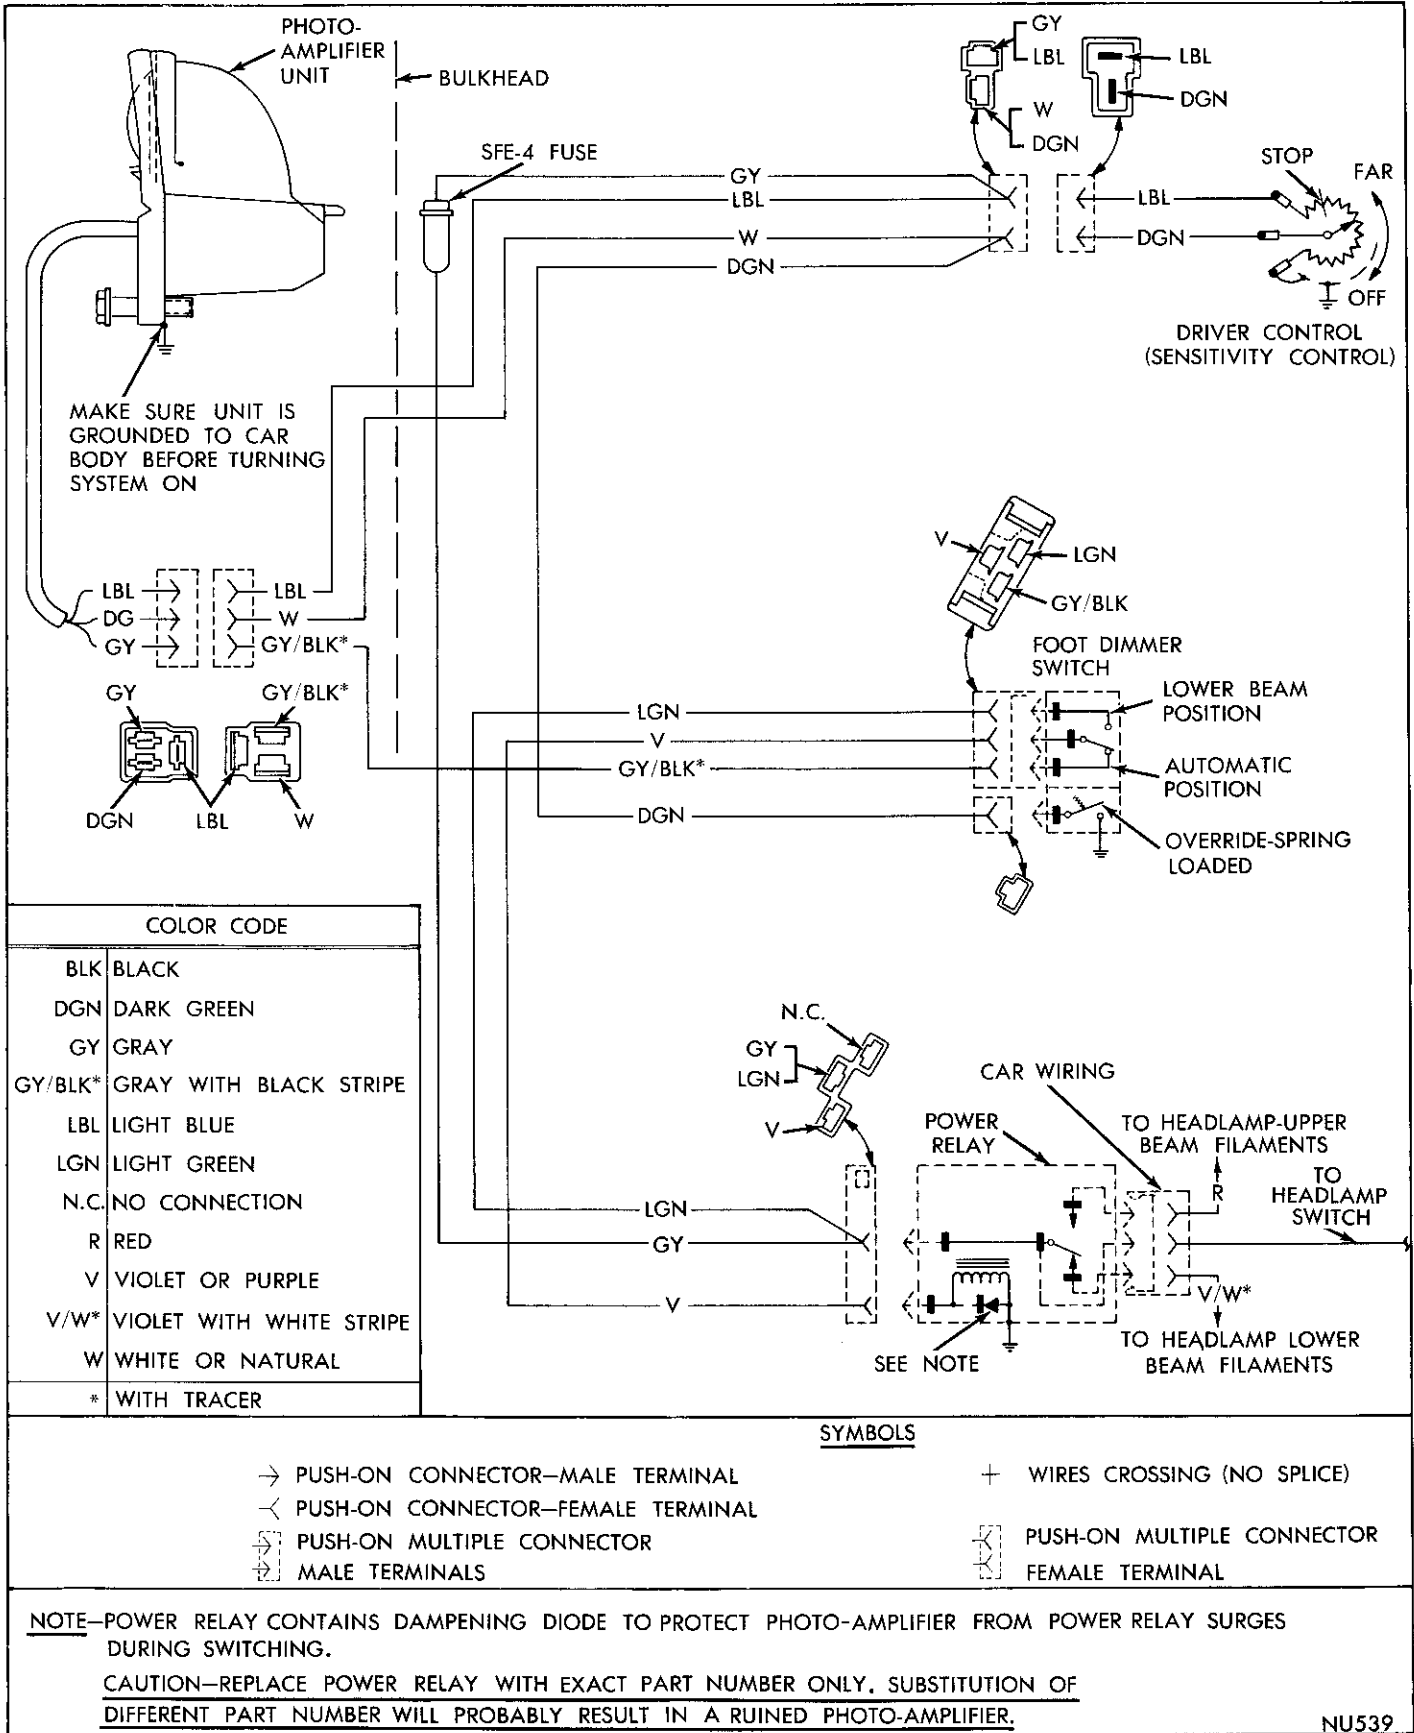

Fig. 1—Automatic Headlamp Beam Changer Wiring Diagram—Schematic
Major components of the automatic beam changer are: a photo-amplifier unit, a power relay, a foot switch, a sensitivity control (driver control), and an interconnecting wire harness (Fig. 1).
A sensitivity control is located on the instrument panel to the right of the light switch. See Fig. 1 and Headlamp Sentinel and Headlamp Dimmer Wiring diagrams under "Wiring Diagrams." This unit provides a driver sensitivity adjustment. Rotating the knob clockwise increases sensitivity and headlights will switch to low beam when an approaching car is farther away. Rotating the knob counterclockwise toward the word off decreases sensitivity, allowing an approaching car to come nearer before switching occurs. The extreme counterclockwise position of the control is an "Off" position and gives manual control of the headlight beams by means of the foot switch.
(b) Loose or wrong connection at foot switch, power relay, and driver control or photo-amplifier connectors.	(b) See Fig. 1 and check all connections.
(e) Blown fuse.	(e) See Fig. 1 and continuity check for blown fuse.
(f) Defective connection to driver control or defective driver control.	(f) See Fig. 1 and continuity check for: (1) Defective connection. (2) Open driver control.
(b) Loose, disconnected or broken photo-amplifier wiring.	(b) Check all connectors. See Figure 1.
(d) Faulty foot switch wiring.	(d) Check for loose connections or open circuit in foot switch wiring. Replace if necessary. See Figure 1.